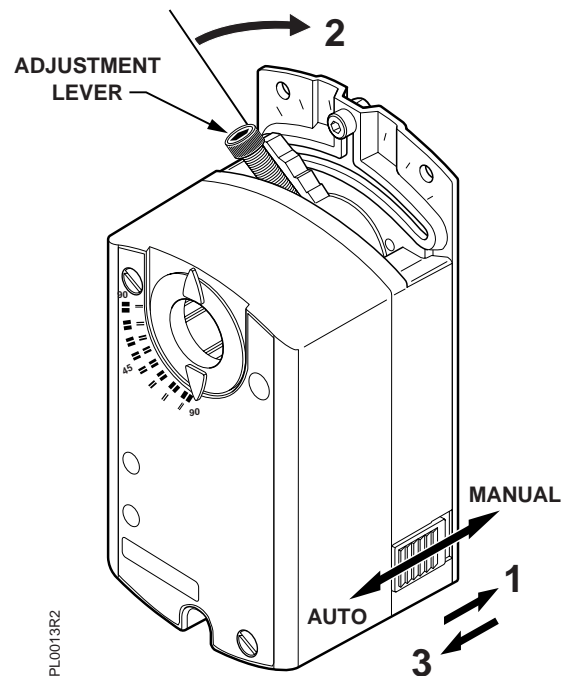

Figure 5. Manual Override.
2. If the blades will rotate counterclockwise, slide the manual override switch to manual and move the adjustment lever to the right. (See Figure 5.) Return the switch to automatic.